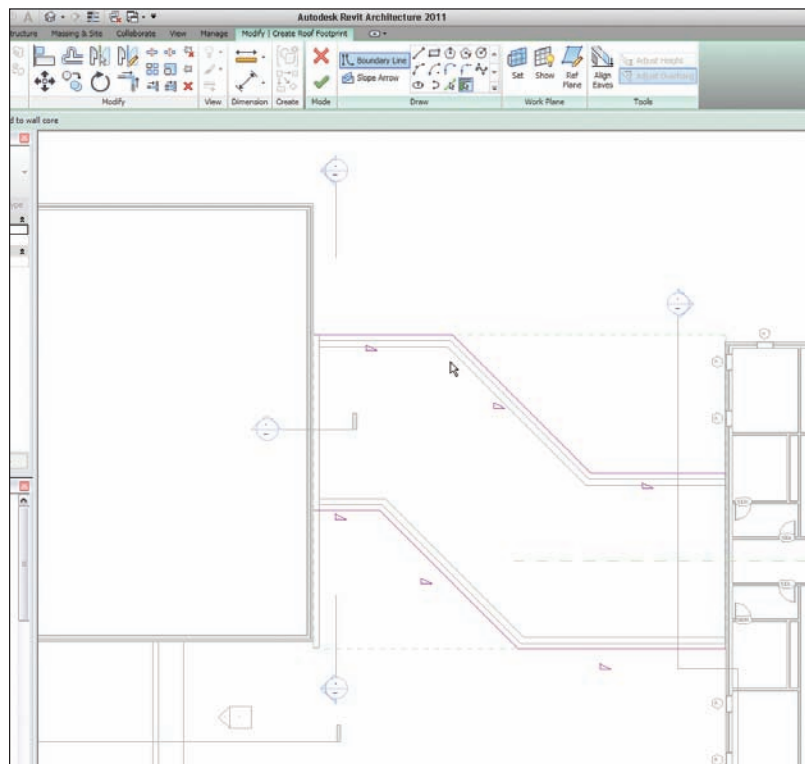

FIGURE 7.23 Pick these walls for the roof’s footprint.
4. On the Options bar, make sure the Defines Slope button is checked, as shown in Figure 7.23.
6. Pick the six walls that comprise the corridor, as shown in Figure 7.23.